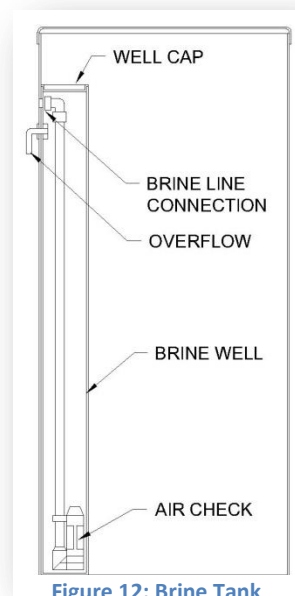

Figure 12: Brine Tank
- B. Remove the well cap and connect one end of the brine line hose to the brine line connection (Shown in Figure 12) of the brine tank. Tighten the brine line hose to the brine line connection by turning the cap of the brine line connection clockwise by hand. Make sure that no air can get into the line, or the softener will not regenerate properly.